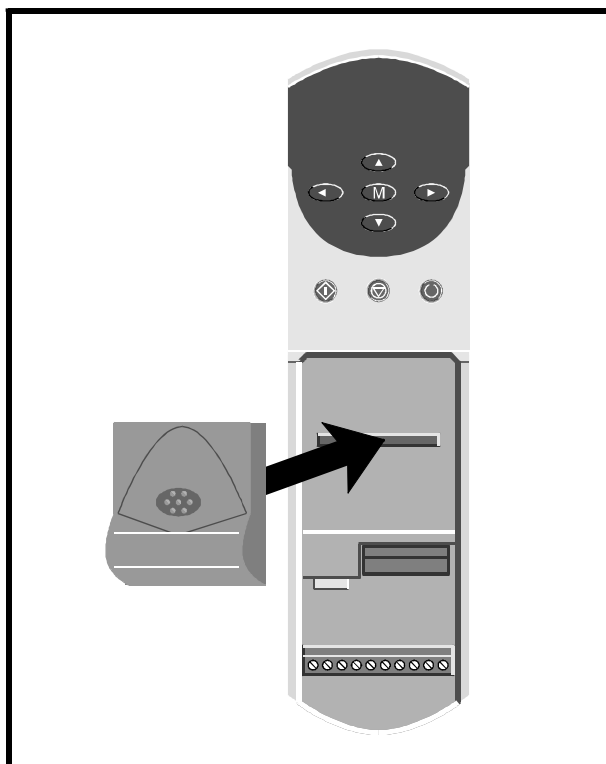

Figure 1 *Installing the UD52 in the Unidrive*
- 5 Position the multi-way connector on the rear of the UD52 over the connector in the Drive (see Figure 1), and press on the thumb pad to push the UD52 into place.